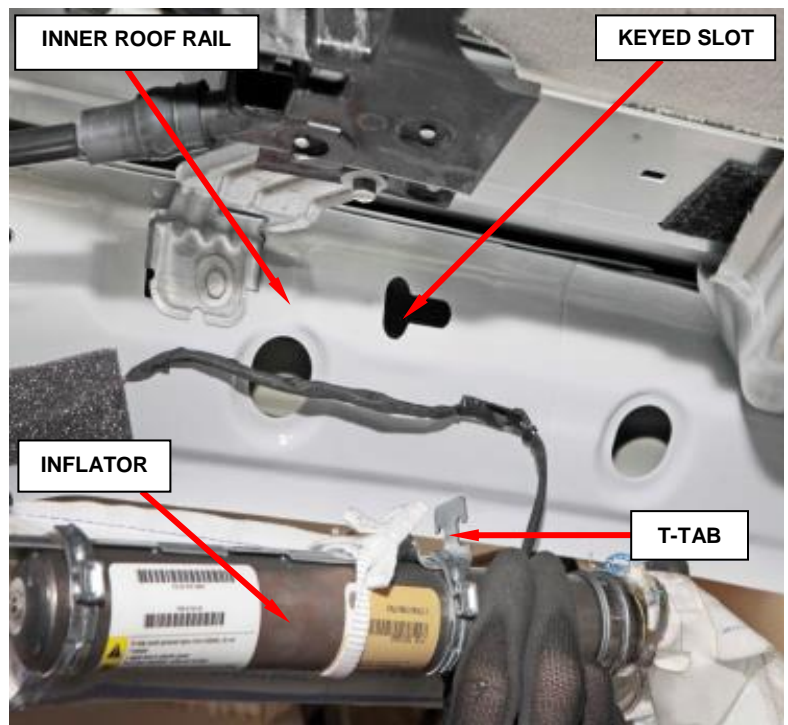

Figure 29 – Inflator T-Tab
6. Slide the inflator rearward far enough to disengage the T-tab at the front of the inflator bracket from the keyed slot in the inner roof rail over the rear door opening (Figure 29).
10. Insert the T-tab at the front of the inflator bracket into the keyed slot in the inner roof rail over the rear door opening and slide the inflator forward to engage it (Figure 29).